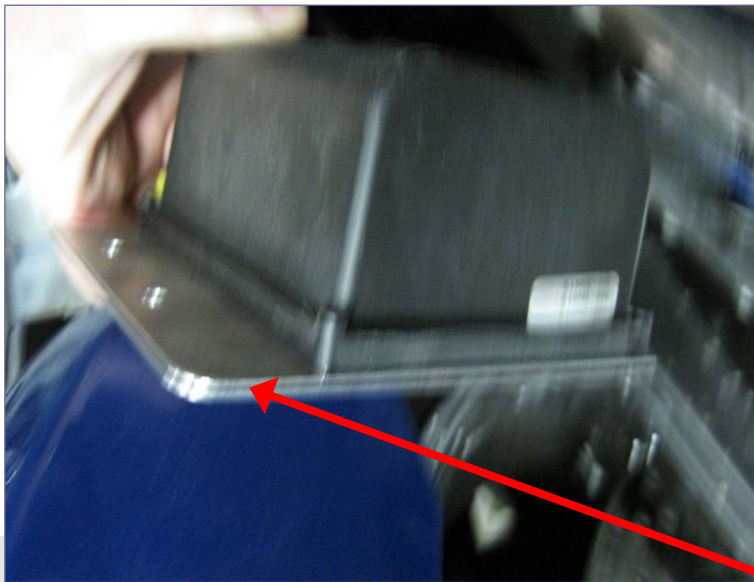

Fig.16
- Slide the metal tab of the cruise control mounting cover between the battery box and the cross member of the frame.(Fig.16, 17)